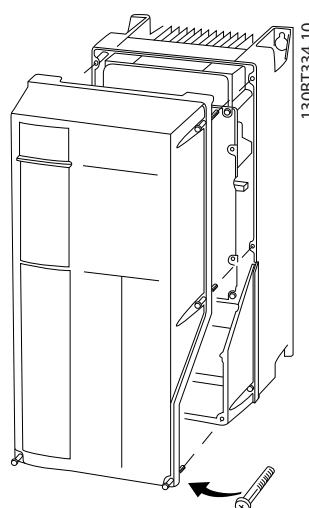

Figure 2.14 Control Wiring Access for A4, A5, B1, B2, C1 and C2 Enclosures
- Or remove front cover by loosening attaching screws. See *Figure 2.14*.